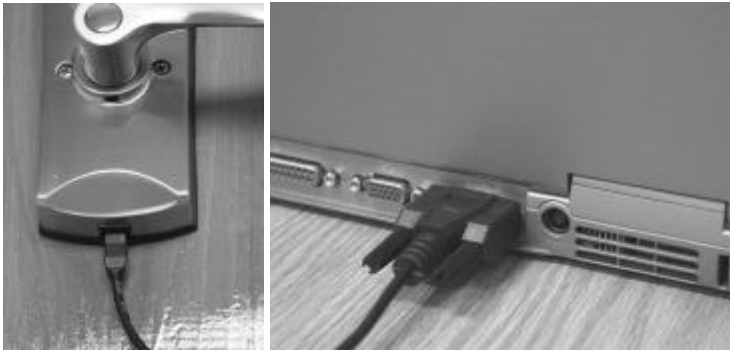

Figure 4
- 11.2.1. Connect provided data cable from the computer's RS-232 serial port to the connector located under button of inside lock unit (see Figure 4).